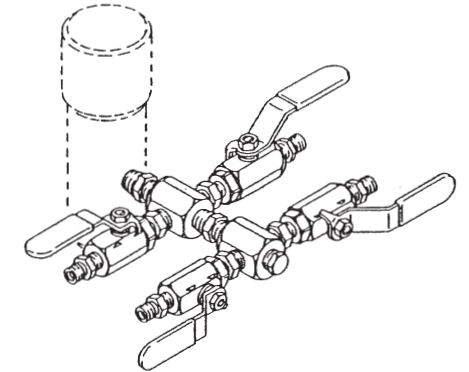

FIGURE 2.
4. Multiple Gun Operation - The **HYDRA M 4000™** is engineered to handle up to 4 guns. When using more than two guns, make sure the second gun hookup outlet is plugged. Connect the multiple gun manifold to the single gun outlet. These manifolds are for either 2, 3, or 4 guns and have shut off valves. Connect a hose and gun to each outlet. See Figure 2.